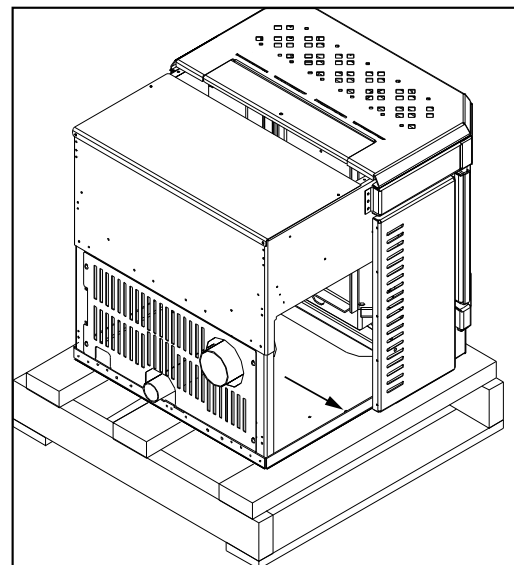

Figure 7: Screws to take out to remove insert unit from pallet.
**INSERT:** To remove your new insert stove from its pallet, remove the two (2) wood screws just inside the unit (see Figure 7). Remove the unit from the pallet and install the pedestal (refer to "INSTALLATION OF PEDESTAL - INSERT")